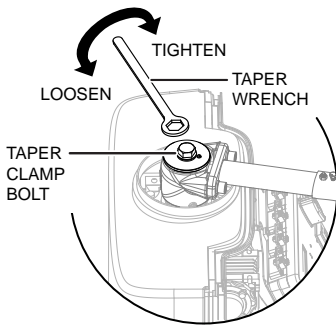

Figure 8. Taper Bolt and Taper Wrench
1. Loosen the taper clamp bolt with the taper wrench (Figure 8).